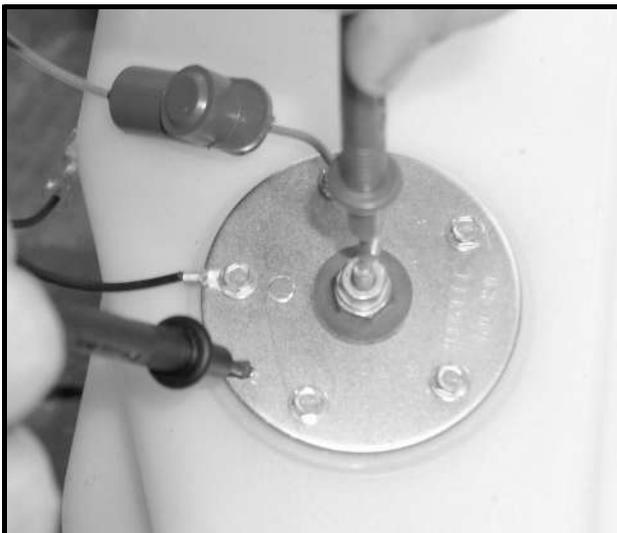

Figure 11b-34 Fuel Level Sending Unit Test
4. With a multimeter set to 2k ohms, place the red (+) probe on the center post of the sending unit. Place the black (-) probe on the ground connection of the sending unit (**Figure 11b-34, Page 11b-39**).